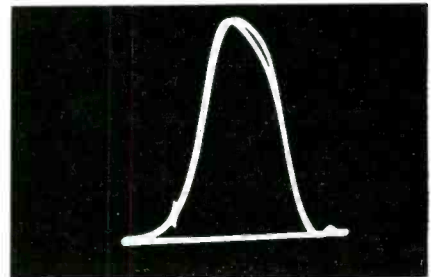

Fig. 6—Appearance of waveforms that jump up and down.
A. This jumping, illustrated in Fig. 6, is usually the result of line-voltage [Continued on page 58]